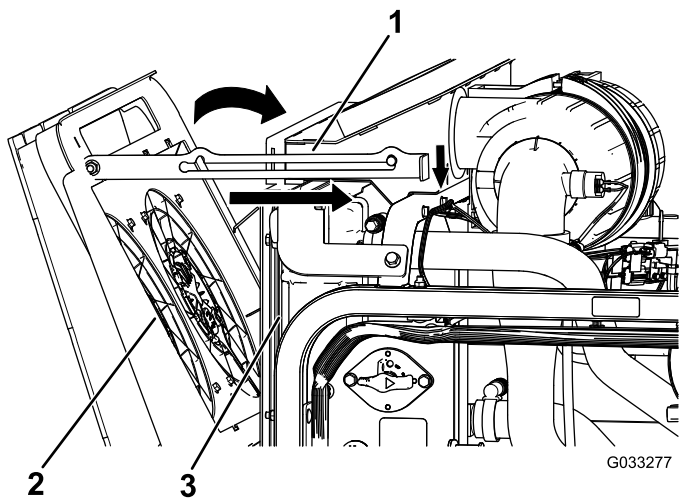

Figure 87
4. Pivot the engine-cooling fans forward and lock the prop rod into the notch (Figure 87).